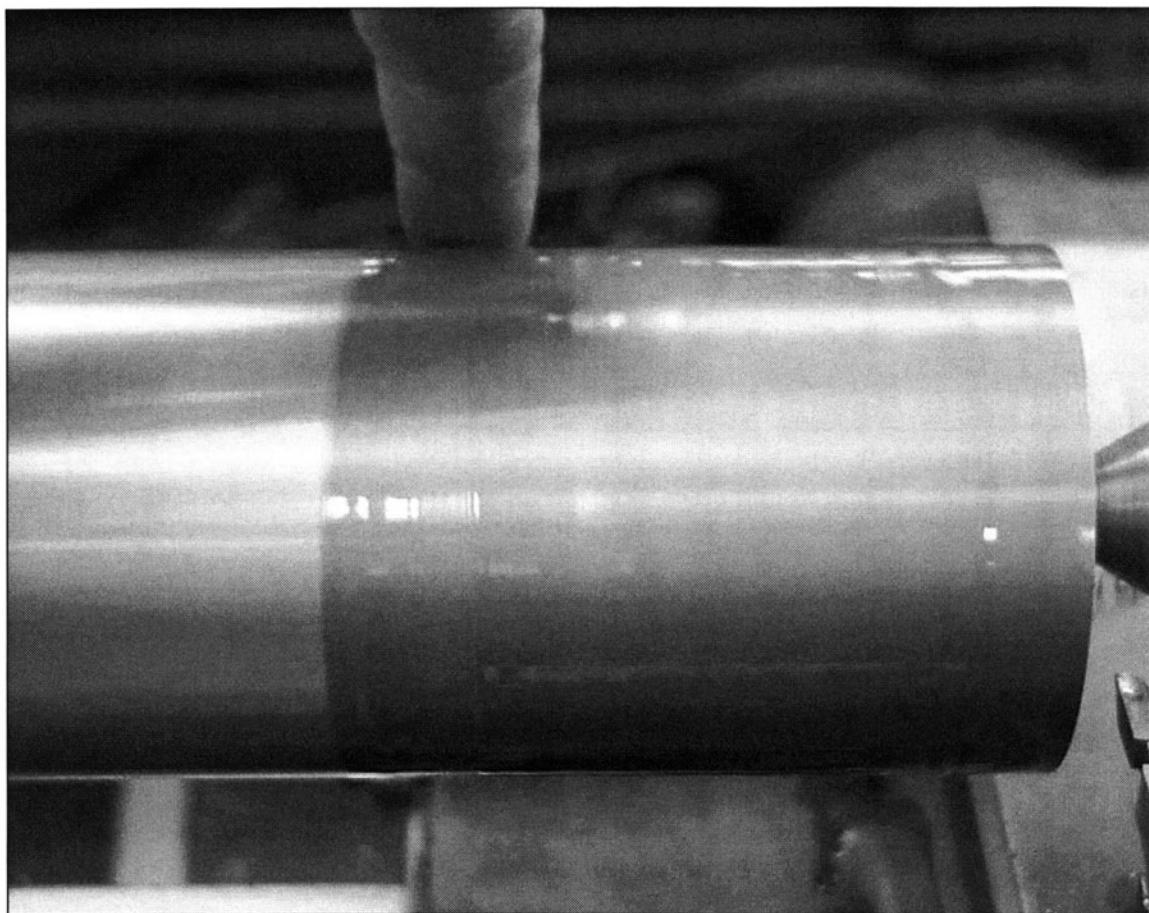

FIGURE 6-28 A thin layer of cutting oil is applied to this lathe part in preparation for a finishing cut.
40. Use water mist for roughing and cutting oil for finishing. (See Fig. 6-28)